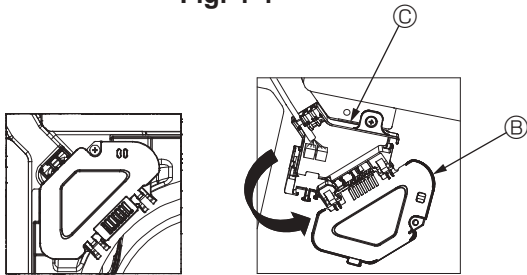

Fig. 4-5
- ③ Remove the one screw securing the connector box cover, and then open the cover (Fig. 4-5)
- ④ Place the junction wire connector in the connector box.
- ⑤ Install the wire cover and connector box cover.